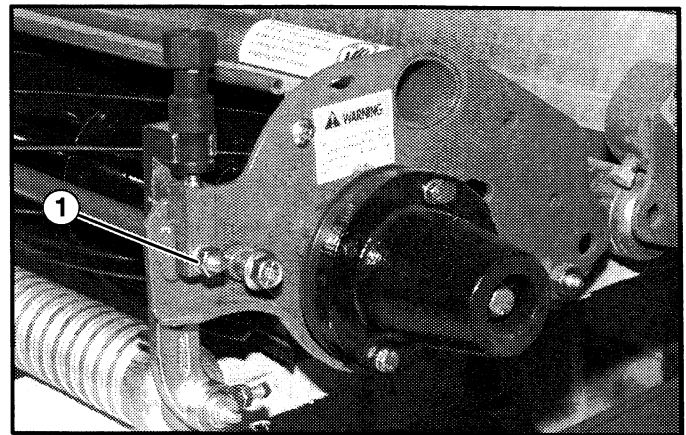

Figure 15
2. Loosen the locking nut on **one** of the front roller adjusting brackets just enough to allow adjustment (See Fig. 15).